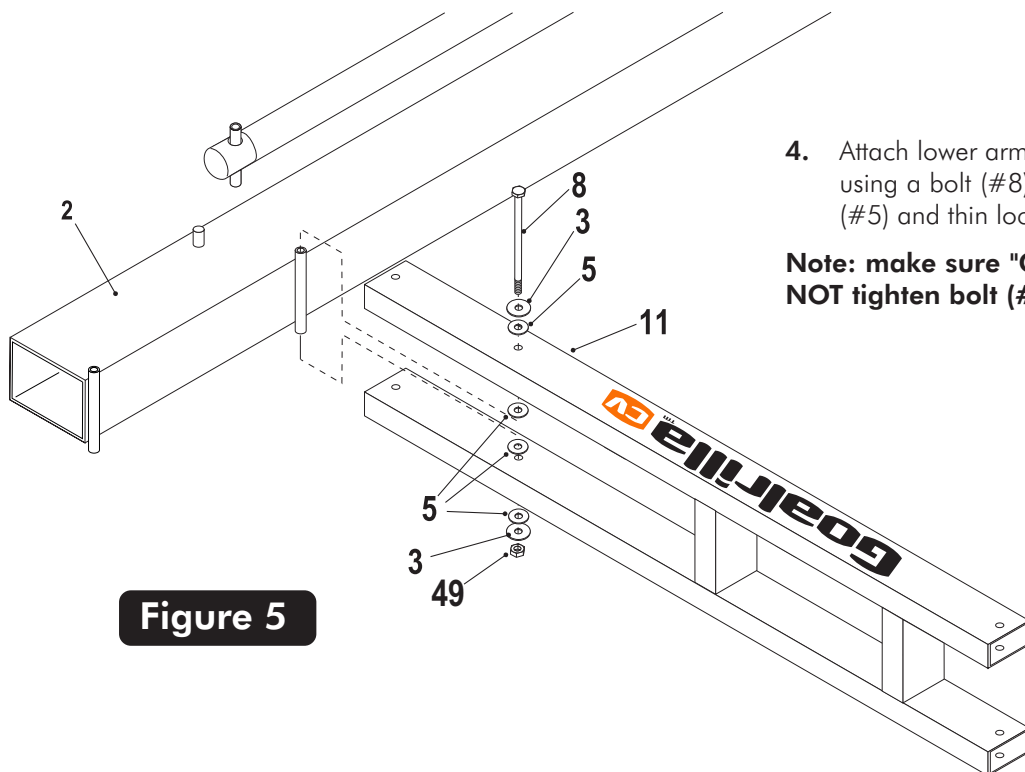

Figure 5
4. Attach lower arm (#11) to Pole (#2), as shown in Figure 5, using a bolt (#8), two flatwashers (#3), four plastic washers (#5) and thin locknut (#49).